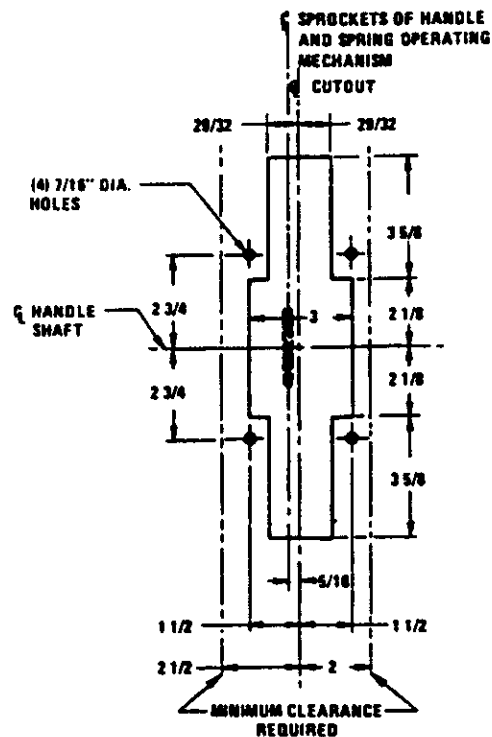

Fig. 10
- If not already provided, cut opening and drill or punch four 7/16" diameter mounting holes in left front of enclosure per details in Fig. 10. (This information is also found on chain drive operating mechanism Dwg. 316-557).